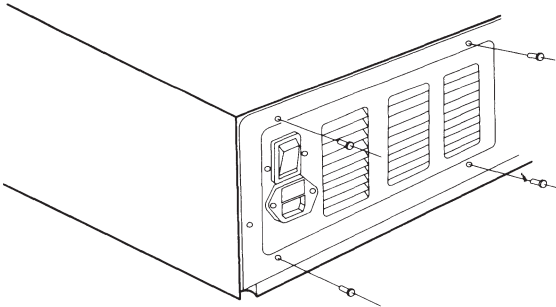

Figure 7-12. Removing the Power Supply Screws.
3. Remove the four screws that secure the power supply assembly to the chassis (Figure 7-12).